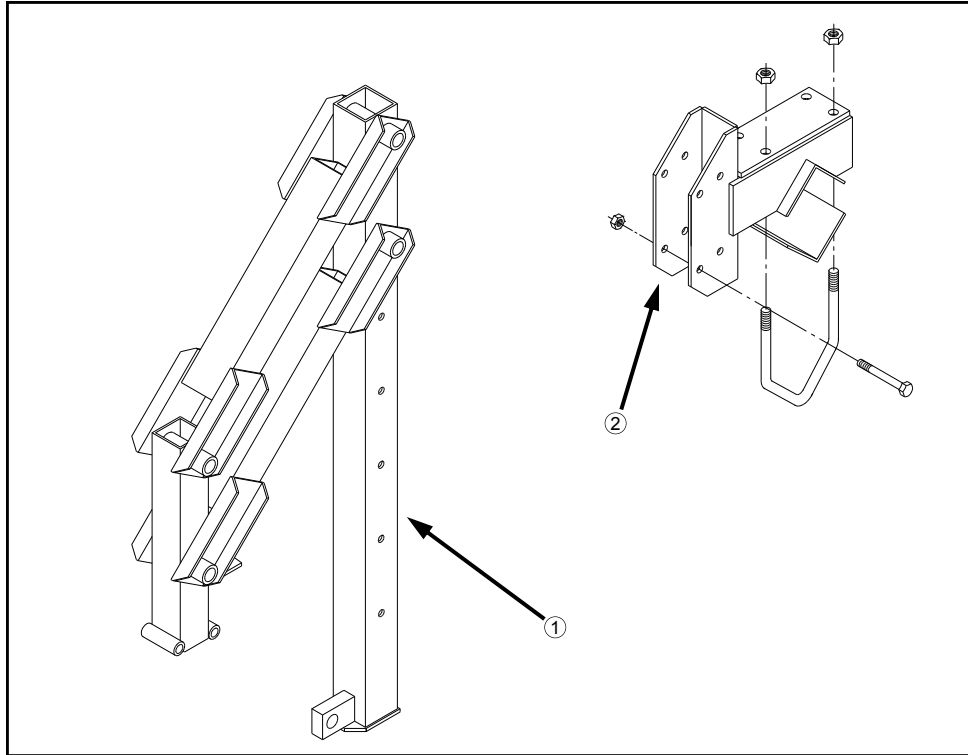

FIG 4.13
1. Attach the lift mounts (fig. 4.13, item 2) to the tool bar and outriggers at the appropriate spacings.
2. Attach the lift arms (fig. 4.13, item 1) to the lift mounts.